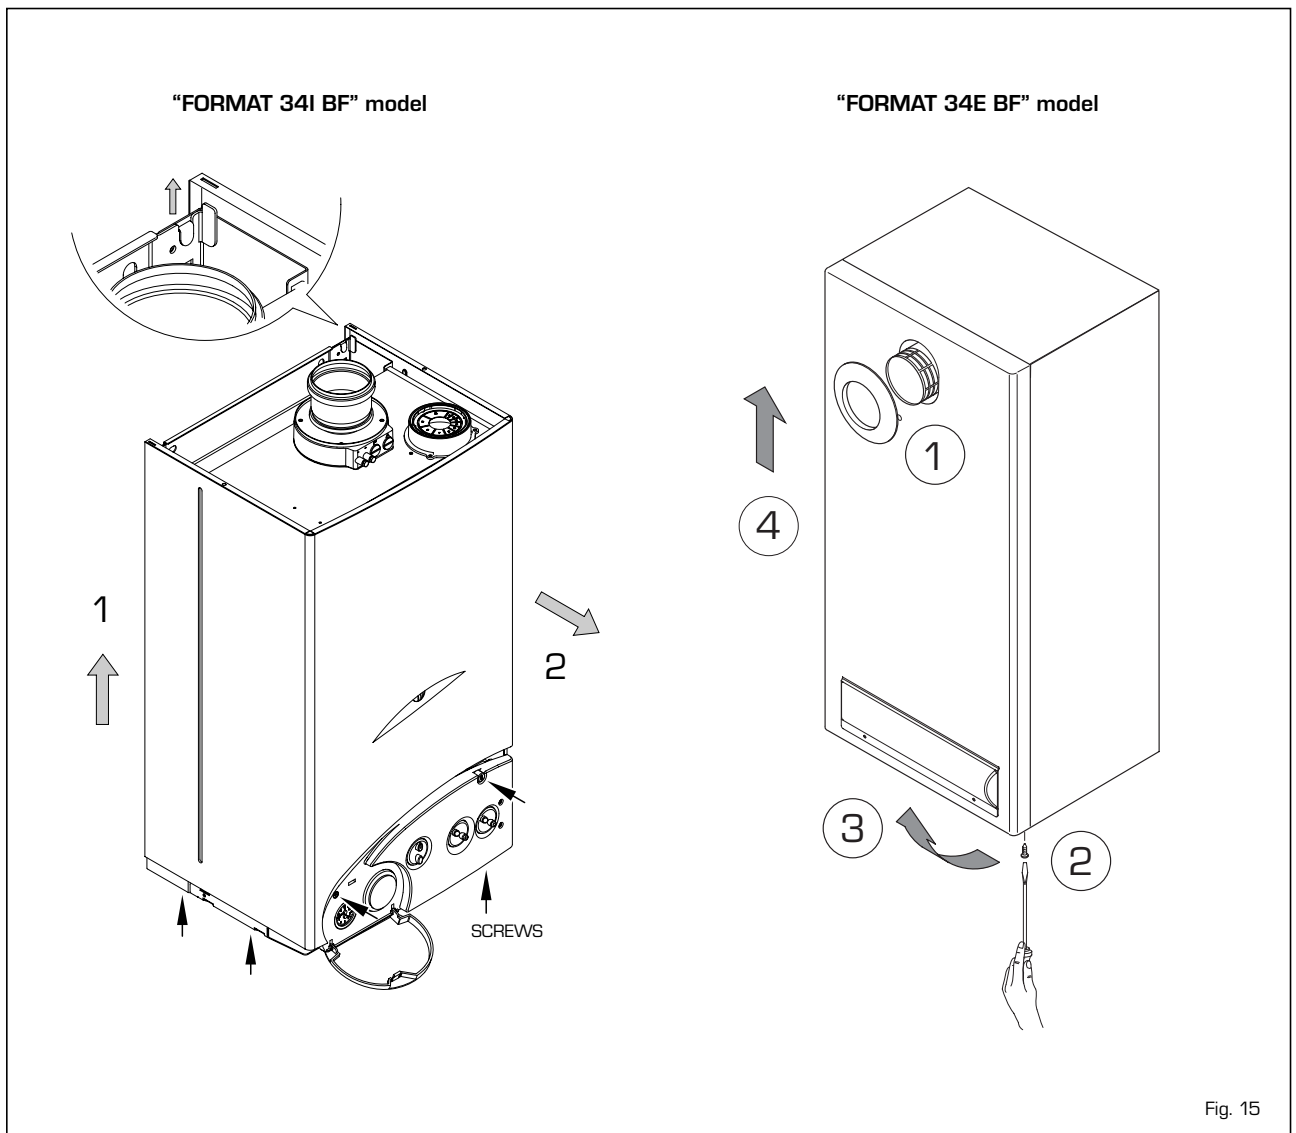

Fig. 15
5.1.1 Model "FORMAT 34I BF" (fig. 15)
5.1.2 Model "FORMAT 34E BF" (fig. 15)